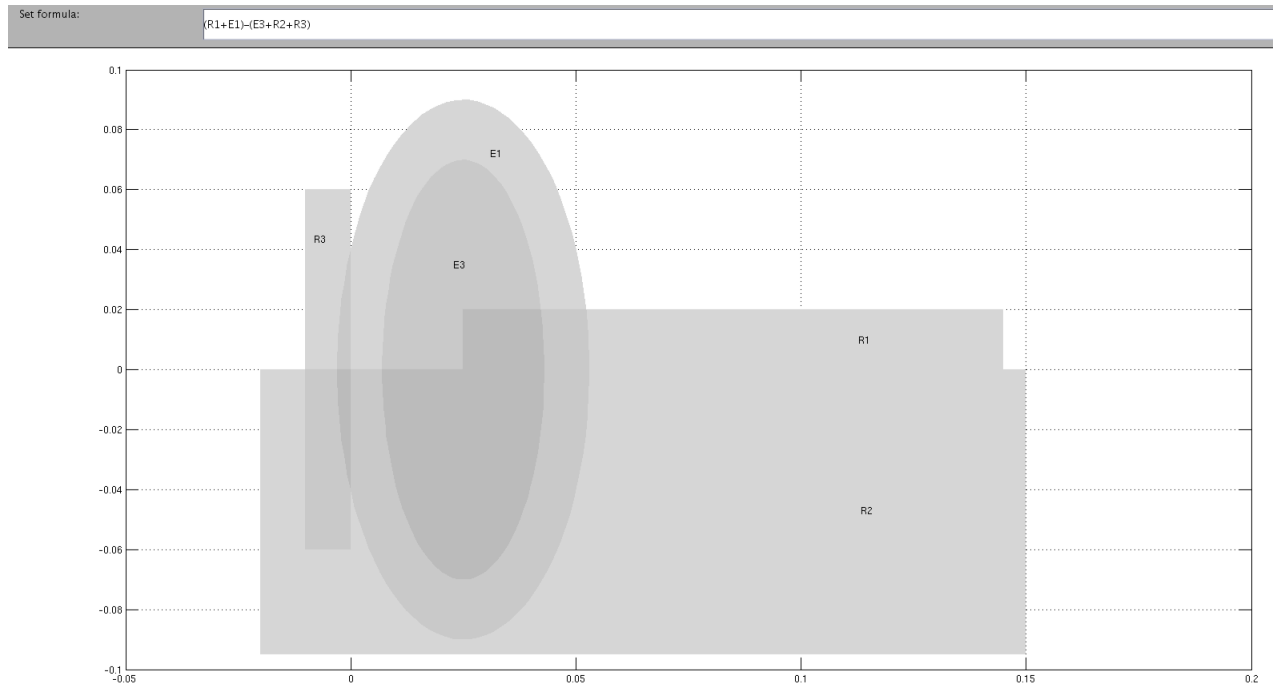
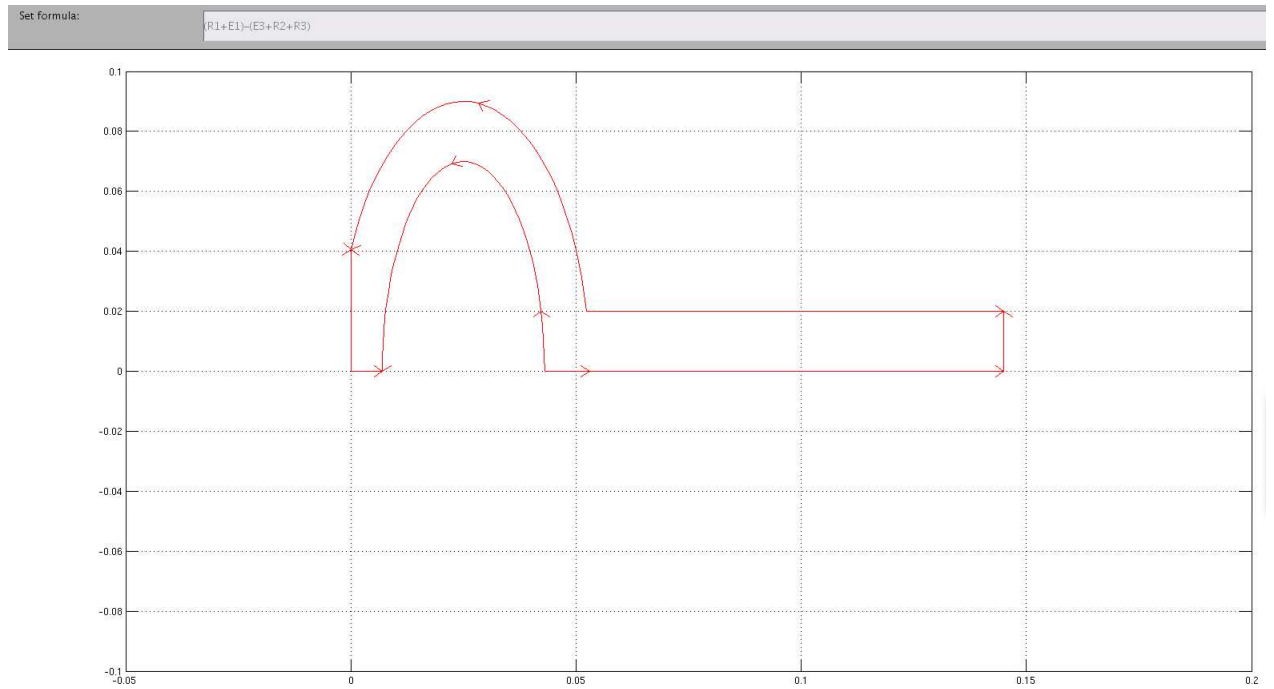

Figure 5: Set of combined shapes.
Figure 6: Resulting geometry seen in boundary mode (ctrl+B) after all subdomains have been removed.
**Determining combined geometry:** In the box below shape-buttons the present features are presented by name (which may be edited using object dialog). The plus sign indicates that geometries are added and minus signs indicate that they are cut out. Because of this the order is important i.e  $\mathbf{R1+E1-E2} \neq \mathbf{R1-E2+E1}$  in general. Below figures showing drawn features and the resulting body after combining by grouping and changing signs in the set formula row (see figure 5, 7 and 6). Note that to see the resulting geometry we need to go to either meshing or boundary view (see toolbar).
To obtain the geometry provided in figure 6 the formula used is given in figure 7 and the object names is seen in figure 5.